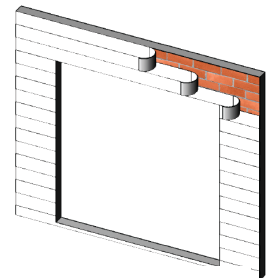

Figure 13:
4. Weather resistant building paper should be applied in a weatherboard fashion to complete the installation (Figure 13).